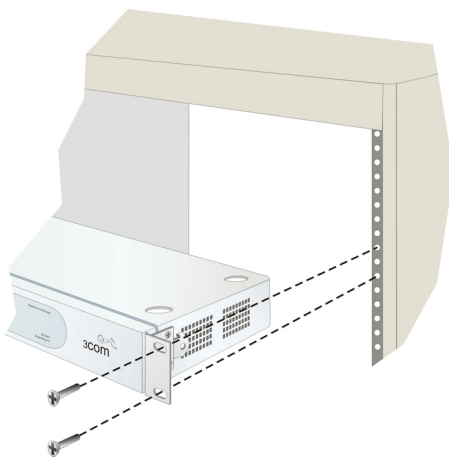

Figure 2-2 Rack Installation (Ethernet Hub)
3. Secure both sides of the hub to the rack-mount standards (Figure 2-2). Use the 1/8-inch Allen wrench and four Allen-head mounting screws (10/32 x 0.5-inch) provided.